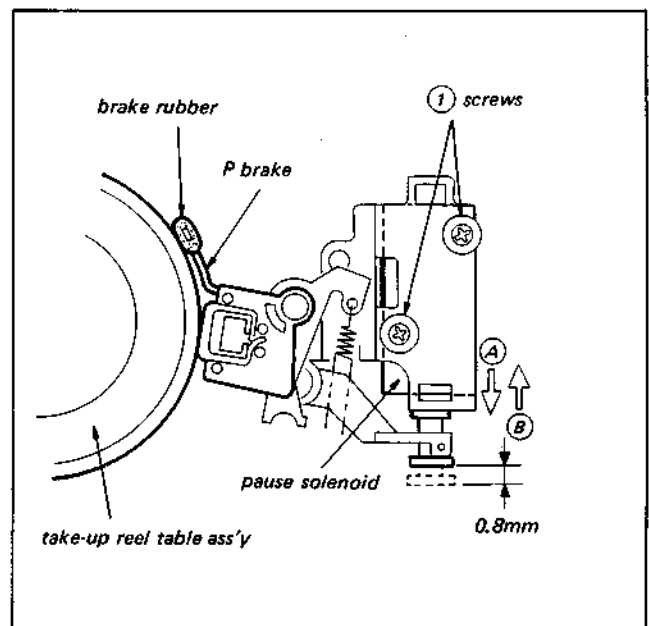

Fig. 3-16. Position adjustment of pause solenoid (Stroke adjustment)
3. Loosen the screws (1) that mount the solenoid and move the solenoid in the direction indicated by screw (A) as shown in Fig. 3-16 so that a clearance is made between the brake rubber and the take-up reel table.
4. Then move the solenoid in the direction shown by arrow (B) and tighten screws (1) after the solenoid is moved further 0.8 mm in the (B) arrow direction from the point where the brake rubber begins to touch the take-up reel table assembly.